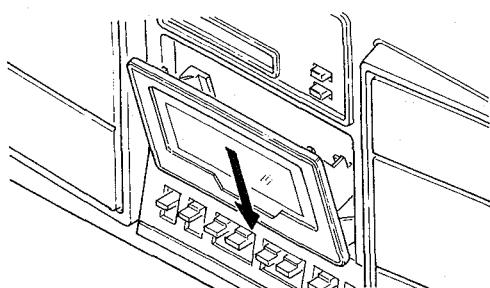

Fig. 6
3. To install the cassette holder, insert it and apply force in the direction of the arrow. It will then be locked firmly in position. (Fig. 6)